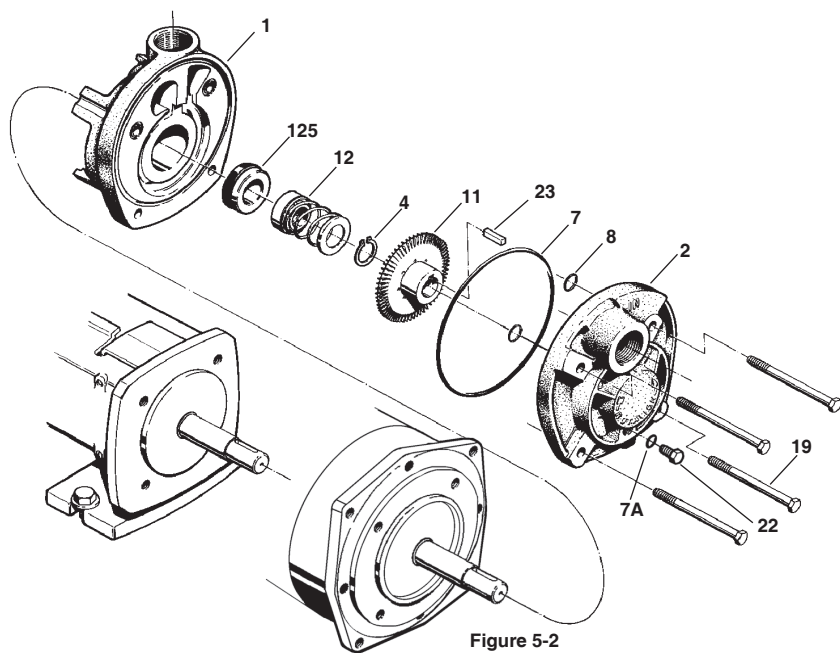

Figure 5-2
Refer to Figure 5-2 for reference to the numbered parts in the procedures below.
- The impeller is a slip fit and should slide on firmly but easily until it stops against the impeller wearing surface. Force should not be required or used to install the impeller in the correct position. The impeller hub should be facing out away from the motor bracket. Refer to Figure 5-2.
- Place the large "O" ring (#7) into the outside "O" ring groove in the motor bracket. Place the two (2) smaller "O" rings (#8) into the smaller "O" ring grooves.
- Place the cover (#2) over the motor bracket and install the four (4) M6-1 X 80mm bolts (#19). Tighten the bolts systematically, alternating diagonally across the cover. DO NOT exceed 7-11 ft. lbs. of torque or damage to the motor "C"-face may occur.